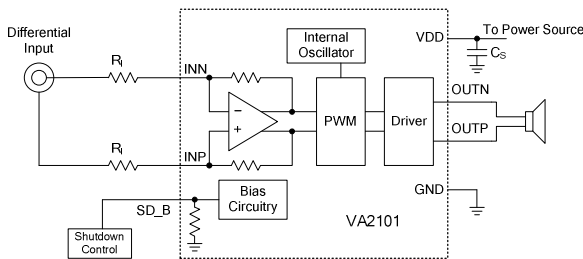

Figure 1. Differential Input Configuration
The gain of VA2101 is set by external resistors R_i shown in Figure 1. Set the gain of the amplifier according to the following equation:
The VA2101 can be used in many circuit input configurations. The simplest and best input configuration is the direct-coupled differential input show in Figure 1. The resistors R_i set the gain of audio amplifier. Refer Equation (1) to calculate.